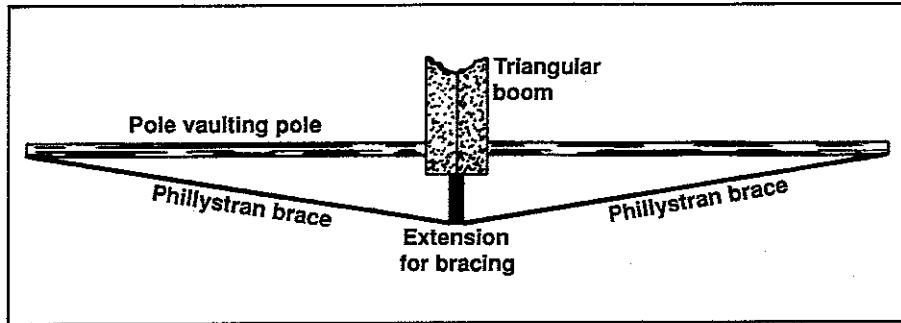

Fig. 5- Top view showing horizontal bracing.
The end poles are also braced in the horizontal plane as shown in fig. 5 to prevent the poles from flexing towards the center. Phillystran(R) was used to provide the support because of its strength and light weight.